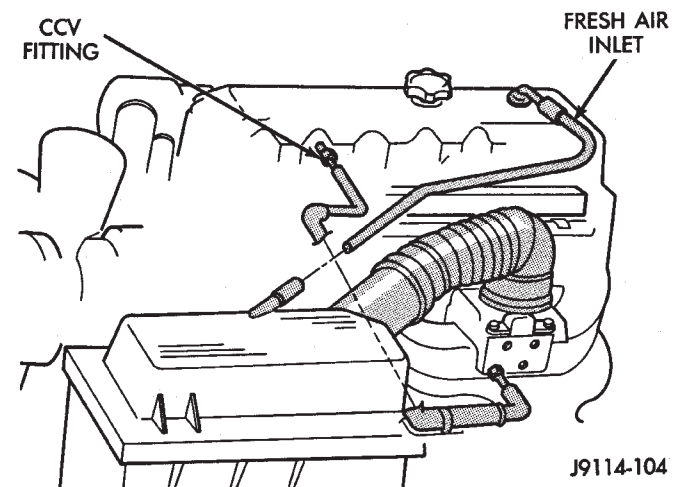

Fig. 1 Engine Cylinder Head Cover
(1) Disconnect negative cable from battery.
(2) Disconnect the Crankcase Ventilation (CCV) vacuum hose from engine cylinder head cover (Fig. 1).
(3) Disconnect the fresh air inlet hose from the engine cylinder head cover (Fig. 1).
(4) Remove the engine cylinder head cover mounting bolts.
(5) Remove the engine cylinder head cover.
(1) If a replacement cover is installed, transfer the CCV valve grommet the oil filler cap from the original cover to the replacement cover.
(2) Install engine cylinder head cover. Tighten the mounting bolts to 10 N·m (85 in. lbs.) torque.
- (3) Connect the CCV hoses (Fig. 1).
- (4) Connect negative cable to battery.